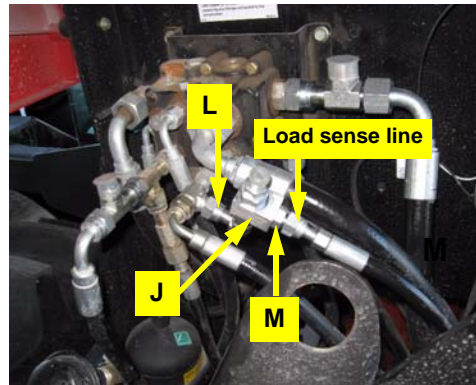

Figure 4d: Installed load sense shuttle
- d. Install the female elbow fitting **L** of the load sense shuttle **J** to the branch of the load sense run tee (Figure 4d).
- e. Reattach the removed load sense line to the load sense shuttle fitting **M** (Figure 4d).